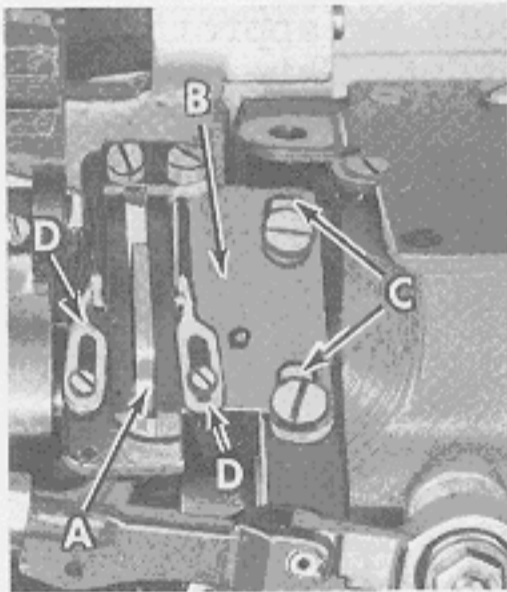

Fig. 14
The looper thread take-up (A, Fig. 14) is not spotted on the mainshaft and consequently, can be set to compensate for varying conditions. It is set correctly when the looper thread is just cast off the highest lobe of the take-up when the point of the left needle is clearly visible below the underside of the looper. The cast-off plate support (B) is adjustable and its setting determines the amount of thread pulled off by the take-up. Moving support (B) up towards the bottom of its mounting screw slots (C) causes more thread to be pulled from the cones, moving same; down towards the top of its screw slots causes less thread to be pulled. The looper threads should just become taut as the loopers reach their extreme position to the left. Check out right to left positioning before securing support (B) as described in paragraph "SETTING THE TAKE-UP", for final setting.